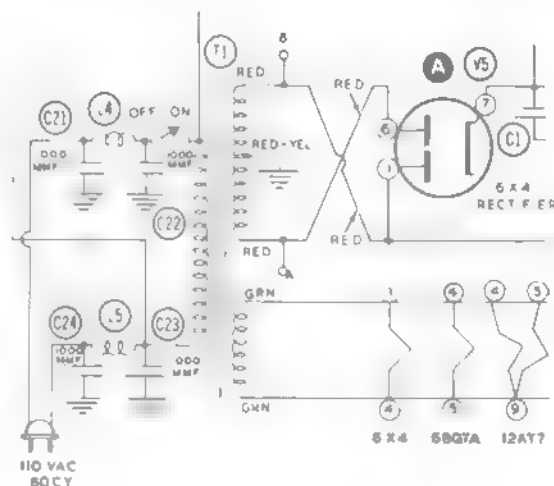

Figure 29
- () Reverse the connection of these two red leads as shown in Figure 29. This will reverse the sweep so the markers will appear on the correct portion of the waveform.